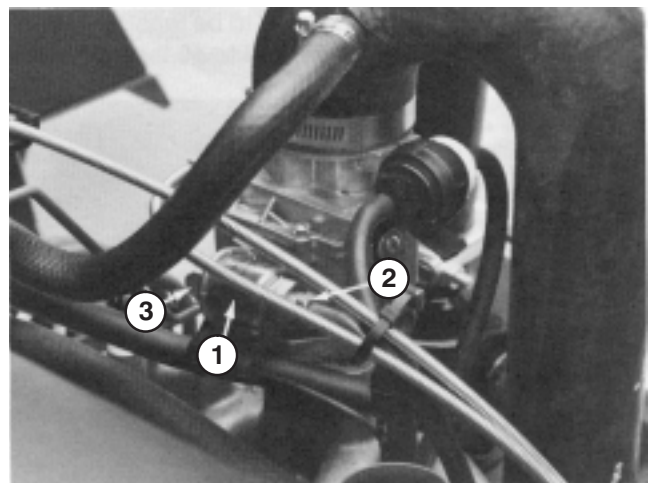

Figure 32
1. Disconnect elbow fitting from rear of fuel filter (Fig. 32).
2. Disconnect front of filter from elbow fitting (Fig. 32).